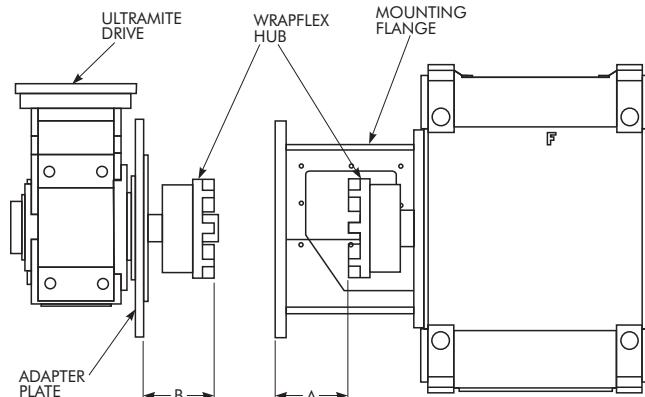

FIGURE 8
When a Wrapflex coupling is used to connect the inching drive to the main drive, no oil is required in the mounting flange. This eliminates the need for flange sealant between mating surfaces. Mount the mounting flange to the main drive with seven fasteners around the first intermediate bore, apply Loctite 242 or equivalent to fastener threads, (see Table 1 for tightening torque). Refer to Wrapflex instructions 498-110 for coupling installation and maintenance. Mount one Wrapflex hub on the first intermediate shaft extension. Position the hub against the shaft shoulder. Apply Loctite 242 or equivalent to the setscrew threads and tighten in hub. Measurements must be taken to accurately position the Wrapflex hub on the Ultramite output shaft. Measure the distance from the mounting flange face to the face of the hub teeth, (A). Then subtract the coupling Gap, 5mm (.197") from the measured value "A". The resulting value, (B) is the distance from the face of the adapter plate on the Ultramite drive to the face of the hub teeth, (see Figure 8).